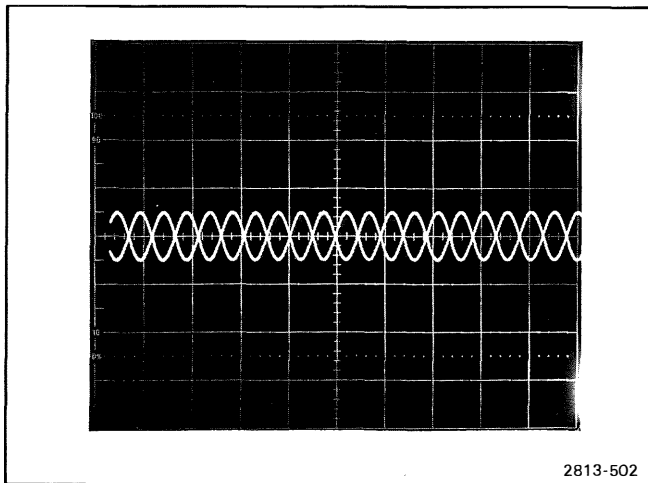

Figure 5-5. Display of bislope triggering.
- g. **EXAMINE**—the two waveforms to see if their starting points are equidistant from the horizontal center line. Figure 5-5 shows the desired display.